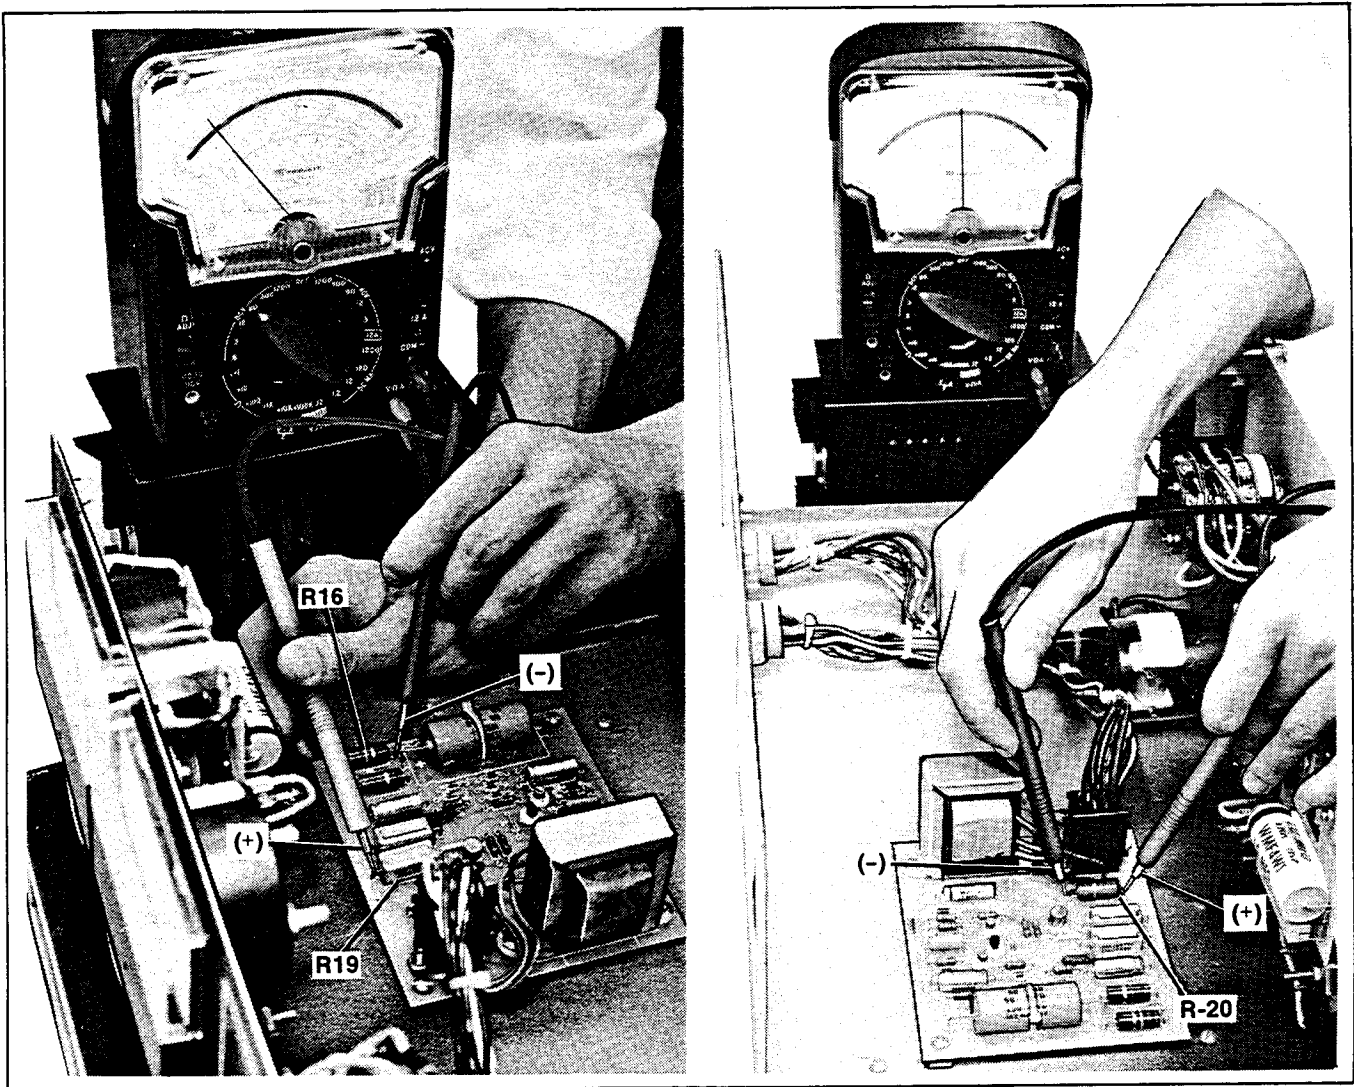

Figure 4-13. Voltage Regulator Board DC Voltage Check
- Check voltages at voltage regulator board (in controller upper cabinet) with set running and safeguard breaker closed. See Figure 4-13.